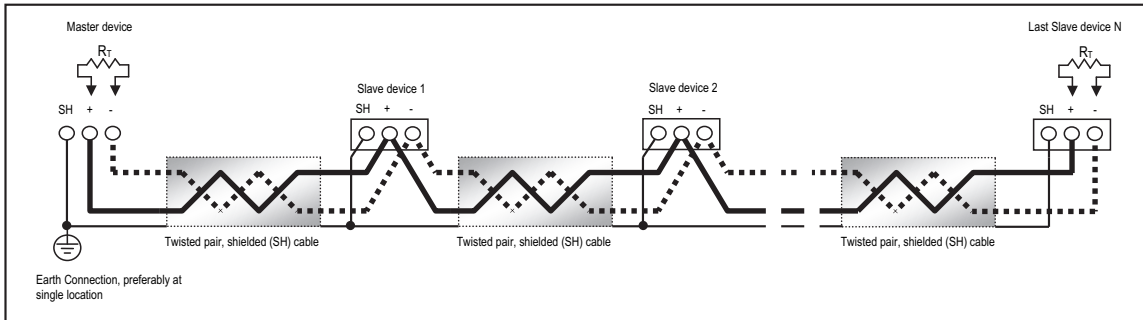

Figure 5.4: RS485 Daisy Chain Connection
- Connect shield to RS485 Master and individual devices as shown in Figure 5.4: RS485 Daisy Chain Connection, on page 5-4. You may also connect the shield to earth-ground at one point.
- Termination Resistors (RT) may be needed on both ends for longer length transmission lines. When they are used, the value of the Termination Resistors is determined by the electrical parameters of the cable.
Figure 5.4 shows a representation of an RS485 Daisy Chain connection. Refer to 5.1.2.1: Using the Unicom 2500, on page 5-5 for details on RS485 connection for the Unicom 2500.